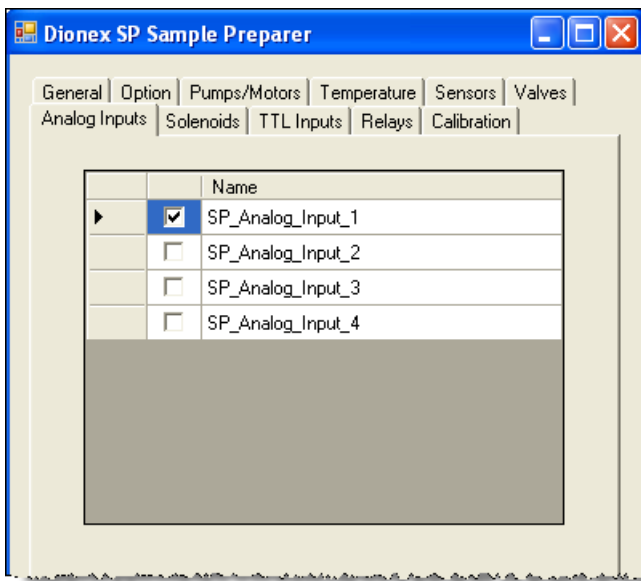

Figure 3-31. Chromeleon Server Configuration: Analog Inputs Page
9. Open the Chromeleon Server Configuration program and open the SP **Properties** dialog box. On the **Analog Inputs** page, the check box for the connected analog input is enabled (see Figure 3-31). The name assigned to the